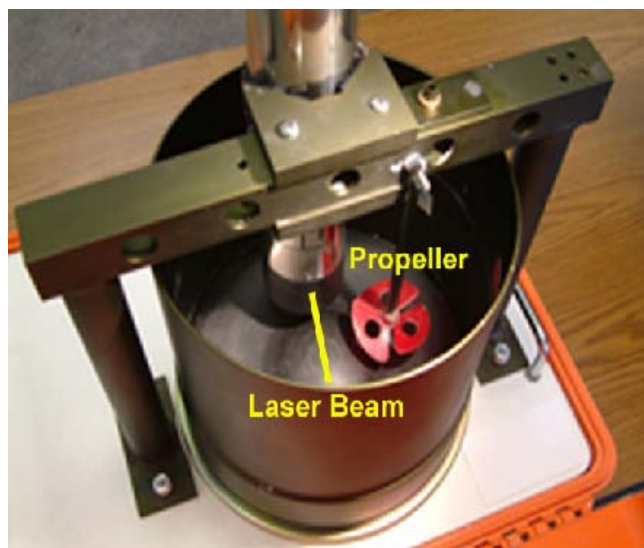

FIGURE 7-4. OBS-5+ in suspender tub
- 6) Position the OBS-5+ so that it produces the minimum FD signal in clear water (FIGURE 7-4).